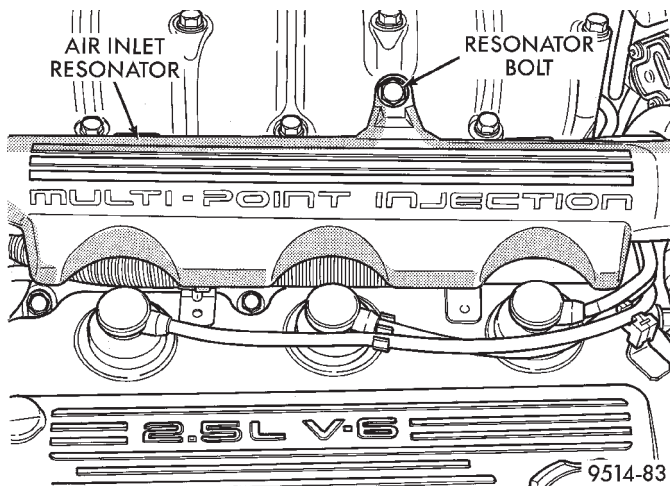

Fig. 30 Air Inlet Resonator
- (6) Remove bolt holding air inlet resonator to intake manifold (Fig. 30).
- (7) Loosen throttle body air inlet hose clamp.